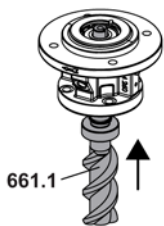

Fig. 27
4. Press the main screw into the ball bearing in the flange cover until it stops, see Fig. 27.